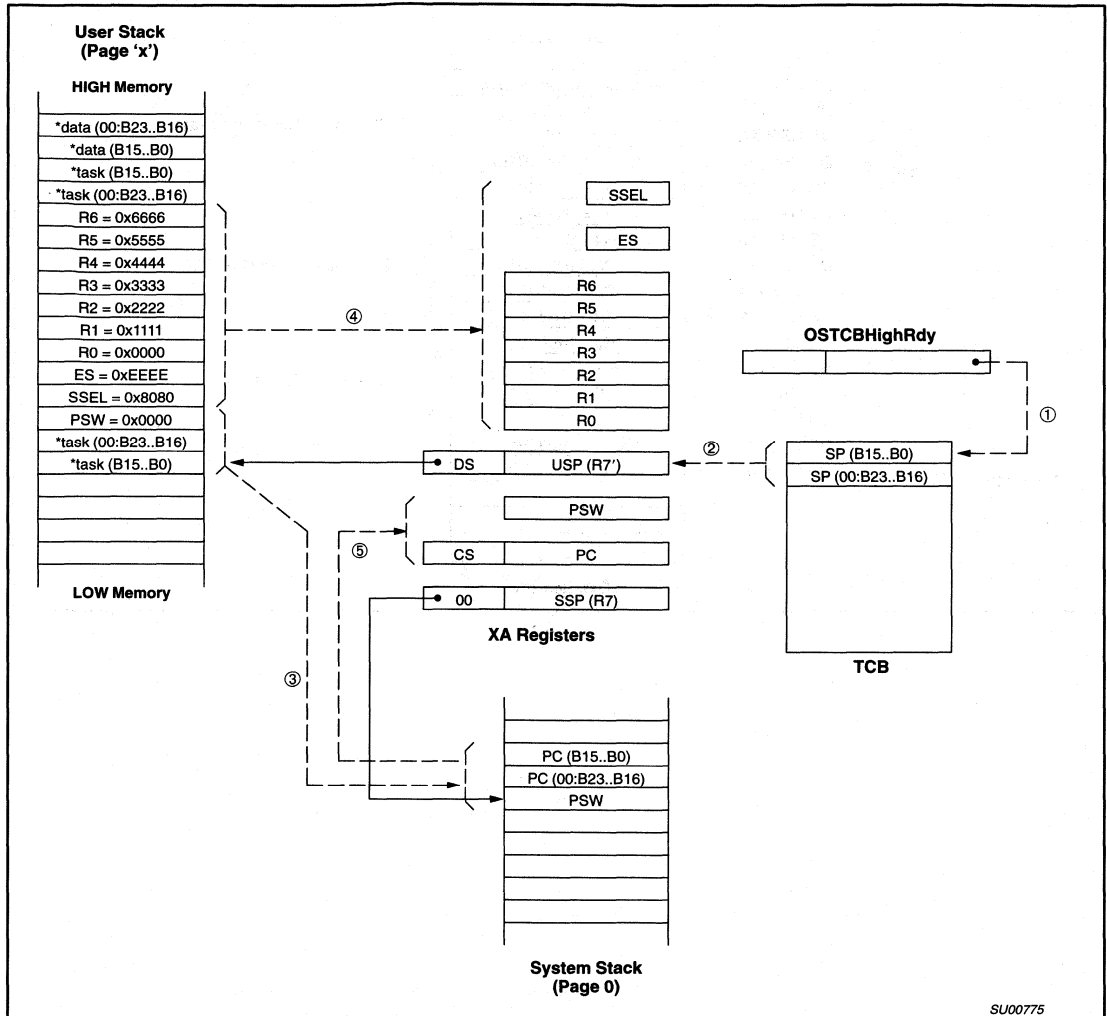

Figure 7.
As previously mentioned, multitasking starts when you call *OSStart()*. Figure 7 illustrates the process. *OSStart()* finds the TCB of the highest priority task that you created, loads the pointer *OSTCBHighRdy* to point to that TCB ① and calls the assembly language function *OSStartHighRdy*. *OSStartHighRdy* loads the USP and the DS register from the task's TCB ② and then moves the start address of your task, along with the PSW from the user stack to the system stack ③. *OSStartHighRdy* then pops the remaining registers from the user stack ④ and finally, *OSStartHighRdy* executes a return from interrupt which loads the PC and PSW from the system stack ⑤ into the XA. Because the PSW was initialized to 0x0000, the XA will now execute the first instructions of your task in user mode with all interrupts enabled.
TCB ① before invoking `OSCtxSw()` which is done through the TRAP #15 instruction. `OSTCBCur` already points to the TCB of the task to suspend. The TRAP #15 instruction automatically pushes the return address and the PSW onto the system stack ②. `OSCtxSw()` starts off by saving the remainder of the XA's registers onto the user stack ③ and then, moves the saved PSW and PC from the system stack to the user stack ④. The final step in saving the context of the task to be suspended is to store the top-of-stack into the current task's TCB ⑤. The second half of the context switch operation restores the context of the new task. This is performed in the following four steps. First, the user stack pointer is loaded with the new task's top-of-stack ⑥. Second, the PC and PSW of the task to resume is moved from the user stack to the system stack ⑦. Third, the remainder of the XA's registers are restored from the user stack ⑧. Finally, a return from interrupt instruction (RETI) is executed ⑨ to retrieve the new task's PC and PSW from the system stack which causes the new task to resume execution where it left off. As shown in Figure 7, a context switch for the large model takes only about 10μs at 24MHz.